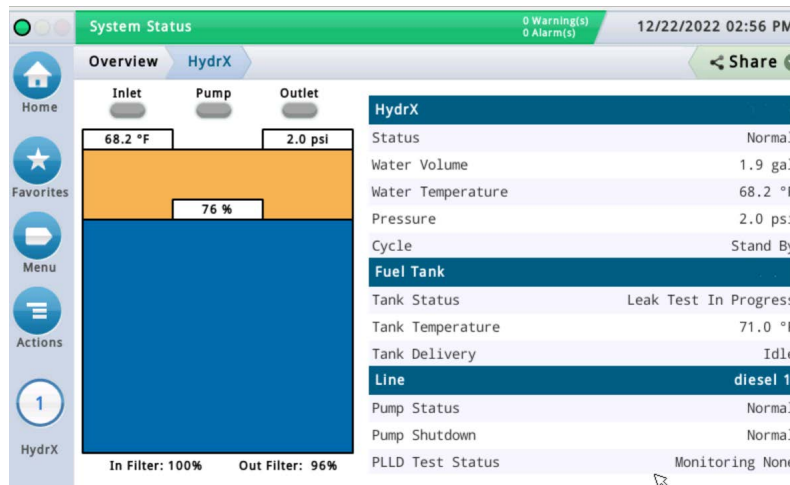

Figure 2. HydrX System Overview Screen
1. Touch **Menu>Overview>HydrX** to open the HydrX System Overview Screen (see Figure 2).